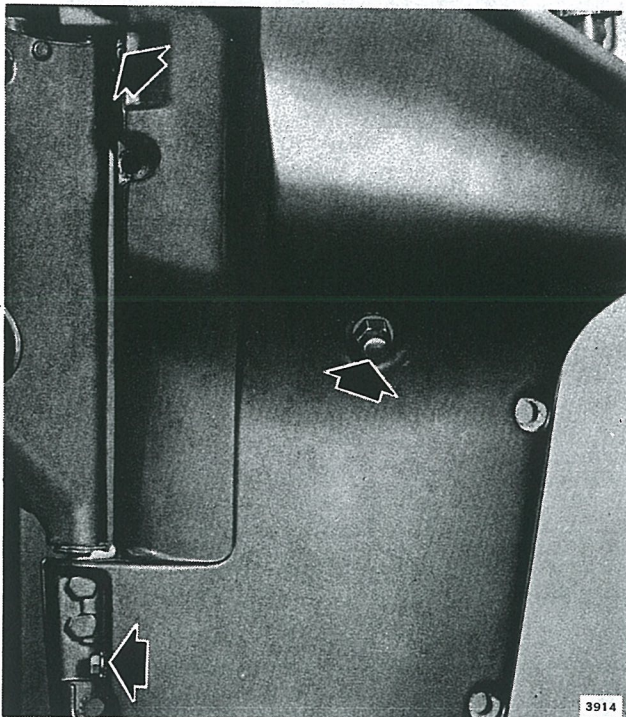

Figure 5-9. Port Lower Cover Attaching Screws
h. Remove two screws and nuts to separate power head and exhaust housing from port lower cover. See Figure 5-9.